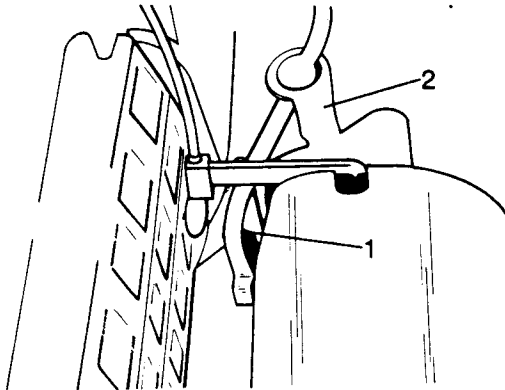

Fig H2.1
- (7) Refer to Fig H2.1. Remove the transfer box gear lever (1) from its bracket fixed to the clutch housing.
- (8) Remove the link (2) that joins the lever of the transfer box to the high and low gear selector. Take care not to lose the spring.
- (9) Remove the yellow knob, nut and spring of the selector lever for four wheel drive.
- (10) From inside the vehicle, remove the seat base centre plate, the plate of the RH floor and gearbox tunnel.
- (11) Remove the transmission brake assembly (see Sub-sub-section K2.4, Chapter 2).
- (12) Remove the double intermediate transfer box gear (see Sub-sub-section H2.3, Chapter 3).
- (13) With a hydraulic jack supporting the rear part of the engine, lift this sufficiently so that the transfer box mountings separate from the chassis.